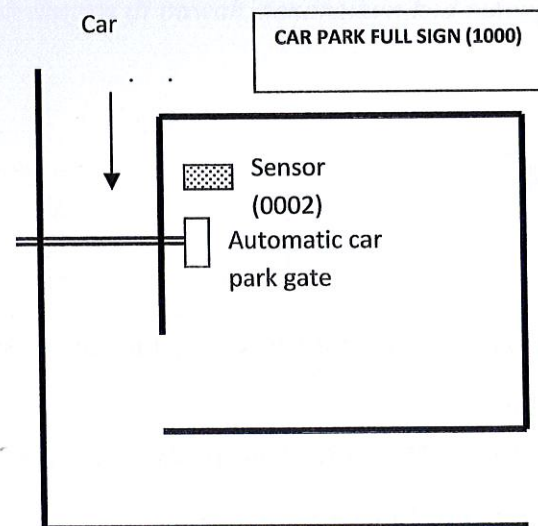

Figure A2/Rajah A2
c) **Figure A2** shows a simple car park control system that will only allow 50 cars at a parking space. Sensor (0002) will detect every time when a car enters and the automatic car park gate (1001) will open for 5 seconds to allow the car to come in. When 50 cars are detected by the detector (0002), the sign board (1002) will show 'NO ENTRY'. Based on operating stated, illustrate the ladder diagram.